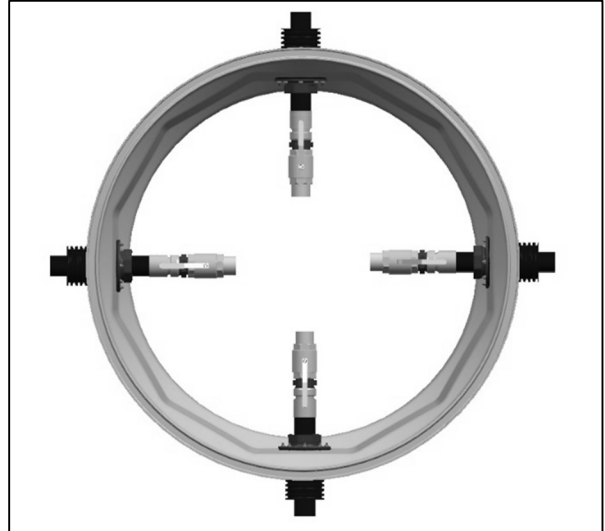

Figure 6
b) Immediately after cleaning install the tank sump onto the tank collar. Prior to attaching the sump to the collar, dry fit it onto the collar and position so that the sump facets align perpendicular with the pipework exit / entry points. See Figure 6.